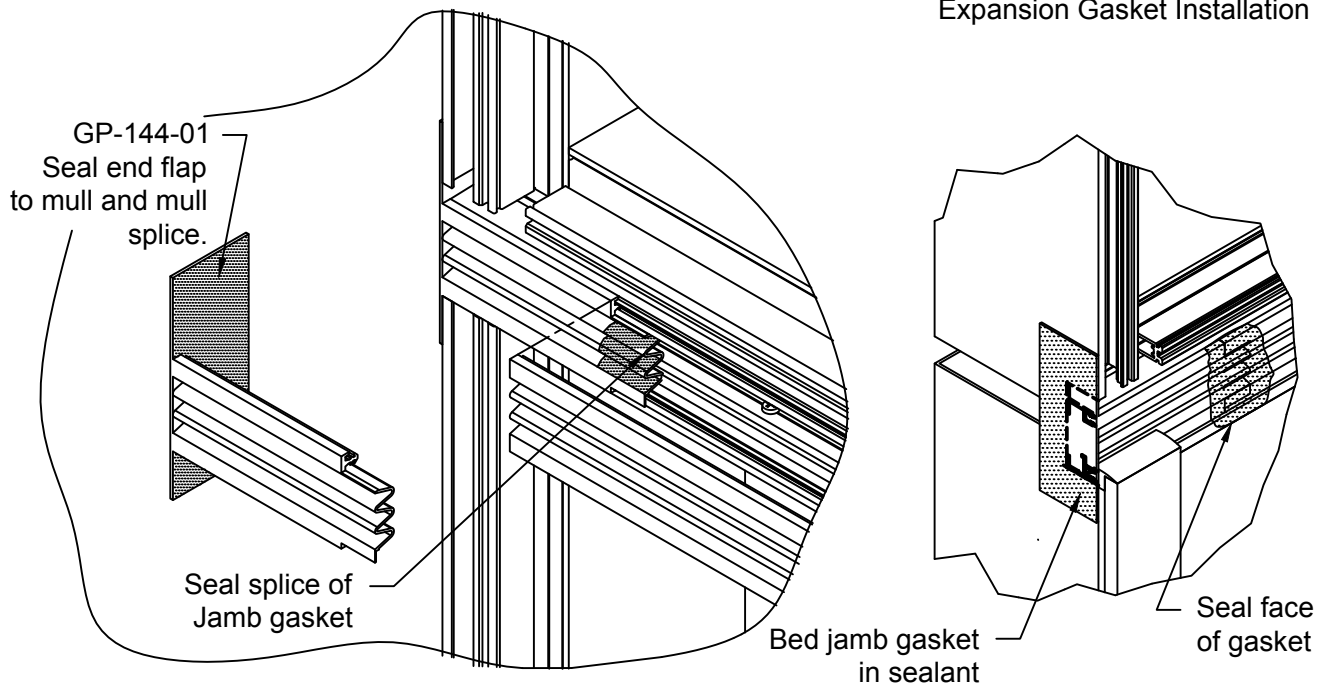

FIGURE 11
- 1.14 Install GP-144-01 jamb sleeve (corner gasket similar) by sealing WW-257 gasket race, sealing end flap and installing onto mullion and mull splice. Once in place, run bead of sealant across splice section of jamb gasket. Install GP-144 gasket over jamb splice and then run exterior bead of sealant over splice area to create water tight seal. See FIGURE 11